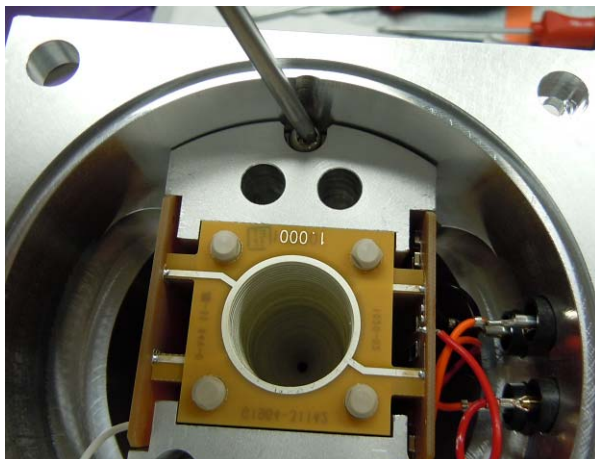

Figure 71 Loosening captive screw on the high pressure ion funnel.
- 5** Loosen the two captive screws that secure the ion funnel to the housing. See Figure 71.